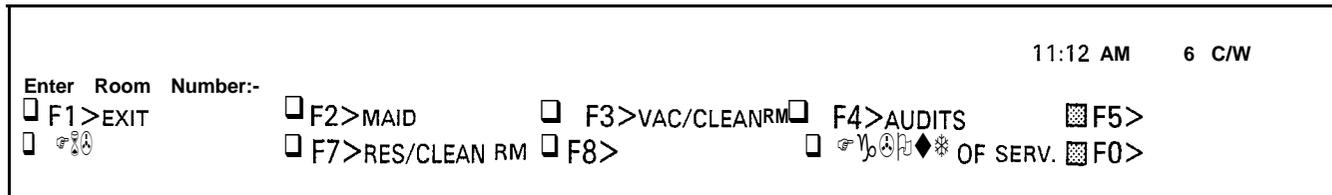

Figure 4-2 GUEST ROOM Display with Idle Console
Pressing GUEST ROOM while the Attendant Console is not engaged in a call will produce the display shown in Figure 4-2.
ROOM NUMBER: This key will prompt the user to enter a room number as shown in Figure 4-2.
4.04 When the FUNCTION and GUEST ROOM keys are pressed, the display changes to that shown in Figure 4-2. Pressing EXIT returns the Attendant Console to its previous display. The functions of the remaining **softkeys** are described below: